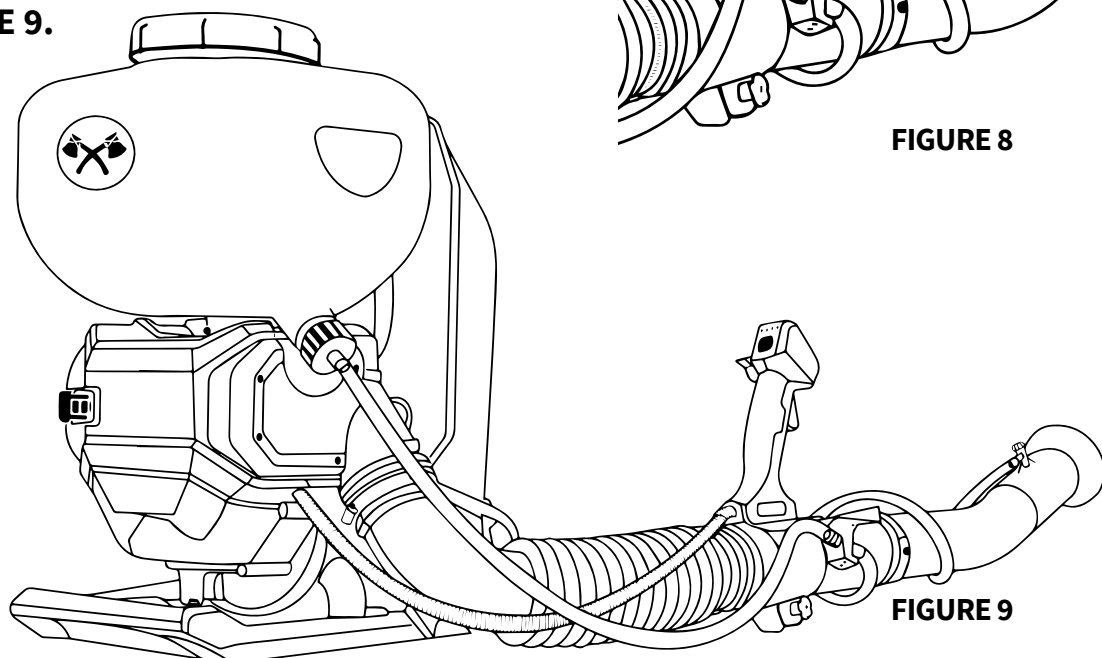

FIGURE 9
4.2.9 The eTMD14 Backpack Mosquito Fogger is fully assembled. **FIGURE 9.**